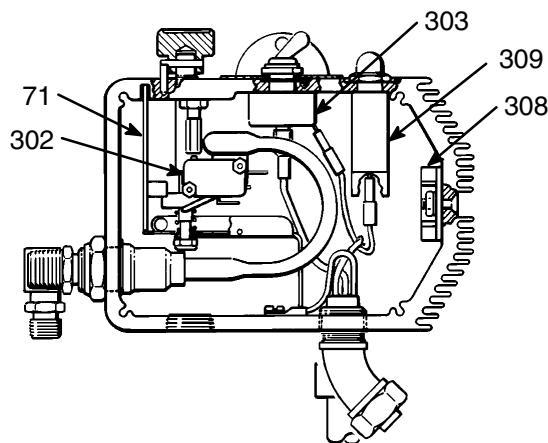

Fig 22-2
Disconnect the two leads from the motor to the bridge (308). *Refer to Fig 22-2.*